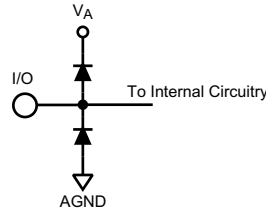

Figure 2.
- (1) The inputs are protected as shown below. Input voltage magnitudes above V_A or below GND will not damage this device, provided current is limited see Note 4 in the Absolute Maximum Ratings table. However, errors in the A/D conversion can occur if the input goes above 2.6V or below GND as described in the Operating Ratings section (See Figure 2).
- (2) To ensure accuracy, it is required that $|V_A - V_D| \leq 100\text{ mV}$ and separate bypass capacitors are used at each power supply pin.
- (3) With the test condition for $V_{REF} = +1.0V$ (2V_{P-P} differential input), the 14-bit LSB is 122.1 μV .
- (4) Typical figures are at $T_A = 25^\circ\text{C}$ and represent most likely parametric norms at the time of product characterization. The typical specifications are not verified.
- (5) I_{DR} is the current consumed by the switching of the output drivers and is primarily determined by load capacitance on the output pins, the supply voltage, V_{DR} , and the rate at which the outputs are switching (which is signal dependent). $I_{DR} = V_{DR}(C_0 \times f_0 + C_1 \times f_1 + \dots + C_{11} \times f_{11})$ where V_{DR} is the output driver power supply voltage, C_n is total capacitance on the output pin, and f_n is the average frequency at which that pin is toggling.
- (3) With the test condition for $V_{REF} = +1.0V$ ($2V_{P-P}$ differential input), the 14-bit LSB is $122.1\text{ }\mu\text{V}$.